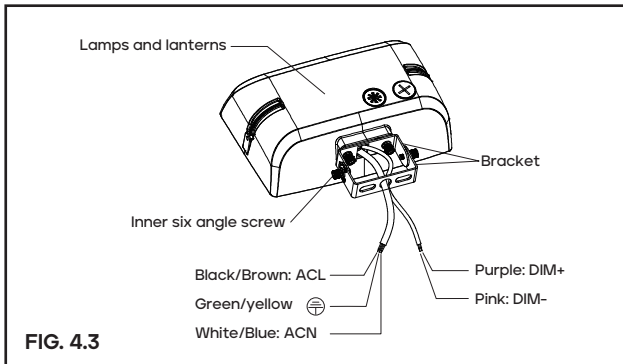

FIG. 4.3
Step 2: Finish the wire connection according to the right mode of connection (pay attention to positive wire, negative wire, and ground wire). (Figure 4.3)